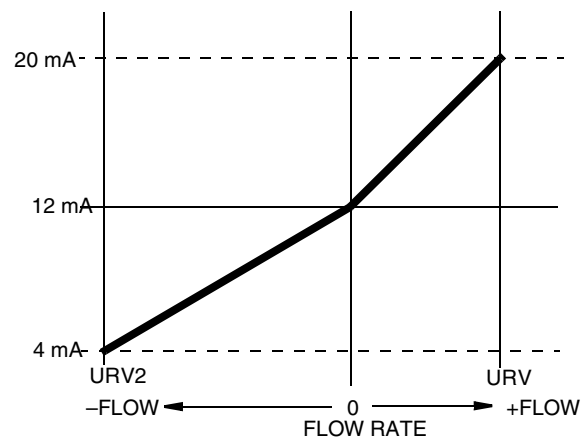

Figure 10. *BiDirectional Split Range Milliampere Output*
- ◆ **BiDir SplitRng** (bidirectional split range), which specifies two-way flow with 4 to 12 mA for reverse flow (Reverse URV to 0) and 12 to 20 mA for forward flow (0 to Forward URV). An optional Relay Output can be used to indicate flow direction. 4 mA indicates reverse flow at the Reverse URV rate, 12 mA is zero flow, and 20 mA indicates forward flow at the Forward URV rate. The relationship between the milliampere output and the flow rate in BiDirectional Split Range mode is illustrated in Figure 10.